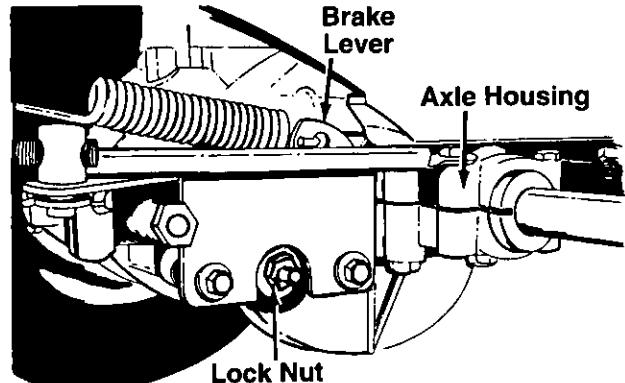

FIGURE 7.
## BRAKE ADJUSTMENT (See Figure 7)
**NOTE:** Figure 7 is shown with the unit tipped up on rear wheels for clarity only.